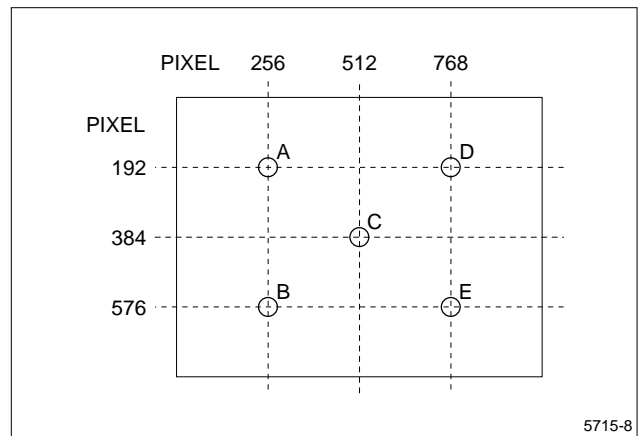

Figure 8. Definition of White Uniformity
- White Uniformity is defined as the following with five measurements (A-E) (as shown in Figure 8):